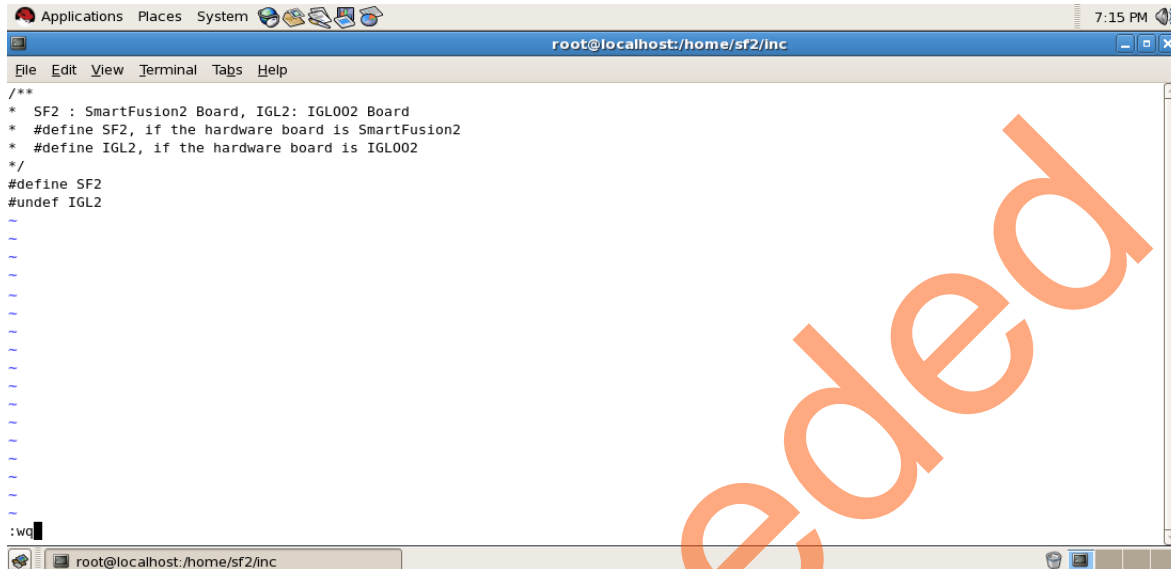

Figure 75 • Edit board.h File
6. Edit the `board.h` file for SmartFusion2 Development Kit as shown in Figure 75.